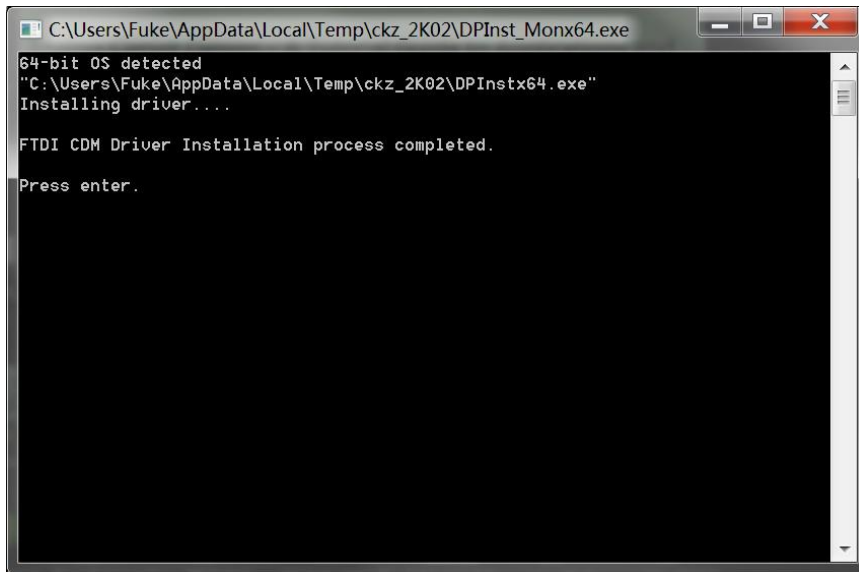

Fig.30 FT232 Driver is installed successfully
- (2) After the installation is finished, you will see the Fig 30. Then press “Enter” key to finish it.